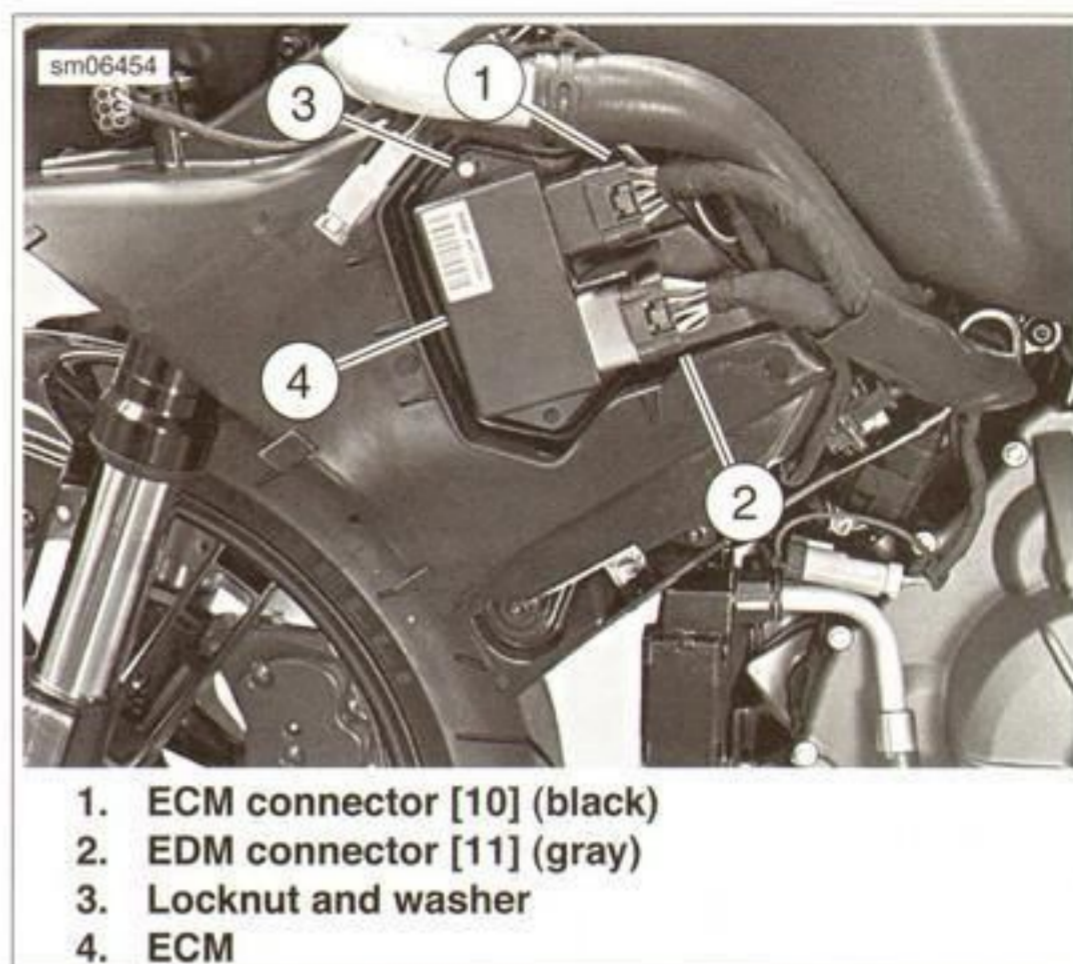

Figure 7-8. Inside the Radiator Shroud
4. See Figure 7-8. Press the locking tabs and separate the pin and socket housings:
- a. ECM Connector [10] (black) (1)
- b. ECM Connector [11] (gray) (2)
5. Remove the locknut, washer (3) and the ECM (4).